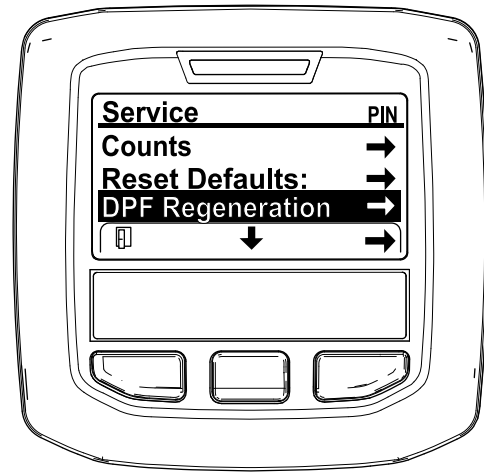

Figure 25
3. In the SERVICE MENU, press the middle button until the DPF REGENERATION options displays, and press the right button to select the DPF REGENERATION option (Figure 25).